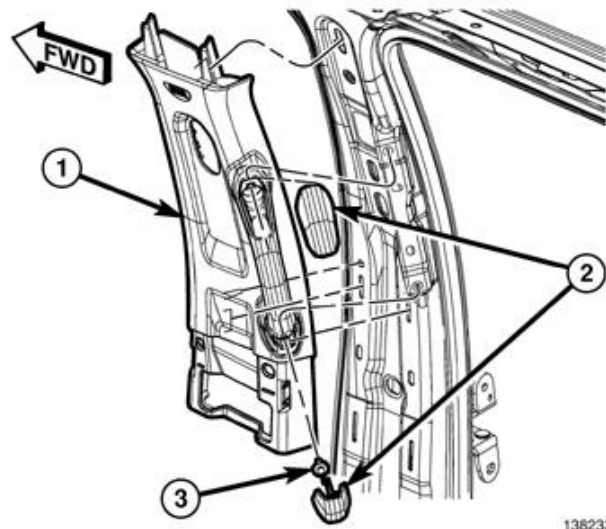

Figure 26 – B-Pillar Upper Trim Panel
19. On the B-pillar, use a small flat-bladed tool to carefully open the two fastener covers (2) located on the grab handle (Figure 26).
20. Remove the two bolts (3) that secure the grab handle to the B-pillar (Figure 26).
21. Using a trim stick C-4755 or equivalent, release the retaining clips that secure the B-pillar upper trim panel (1) then position the trim panel out of the way. It is not necessary to remove the seat belt from the trim panel (Figure 26).
60. Install the B-pillar upper trim panel (1) and engage the retaining clips fully (Figure 26).
61. Install the grab handle bolts (3) and tighten to 5 N·m (44 in. lbs.). Close the fastener covers (2) (Figure 26).